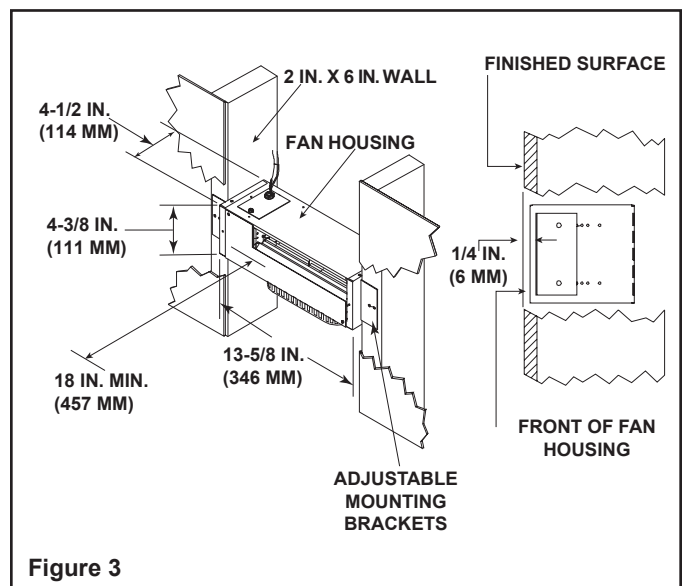
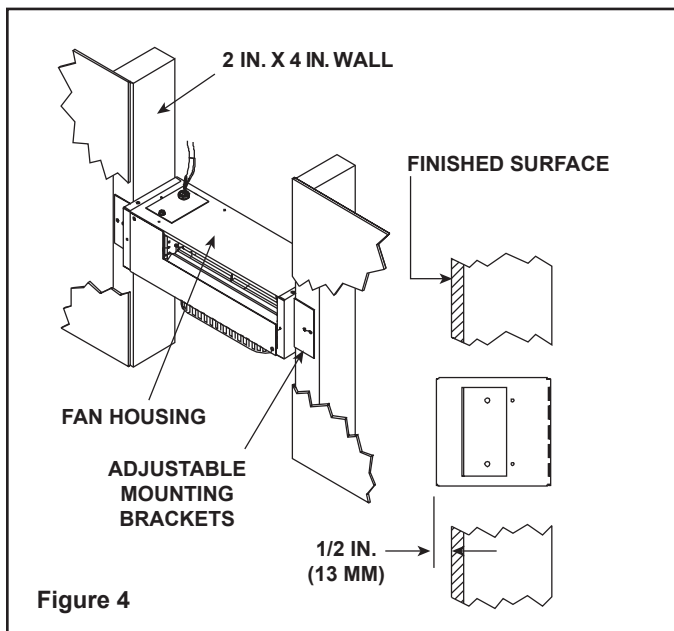
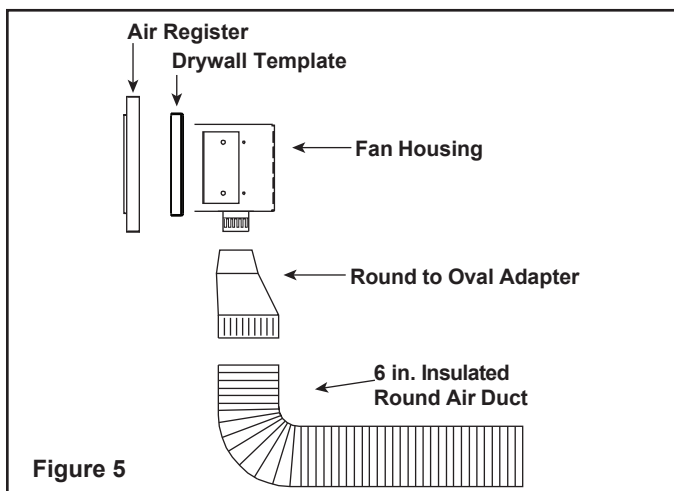

Figure 3
Figure 4
Figure 5
4. Mount and secure the fan housing assembly to framing members so the front surface is 1/4 in. (6 mm) below the finished wall or floor surface. Use the adjustable mounting brackets and screws provided in the kit. See Figure 3 and Figure 4. It may be desirable to add the drywall template to the fan housing at this time. The drywall template can be removed and discarded after finishing material has been added. See Figure 5.
Note: If the fan housing is installed in a 2 x 4 wall, the front of the housing will protrude approximately 1/2 in. (13 mm) out of the wall. See Figure 4.
6. **Insulated Round Air Duct:** Run the flexible duct to the fan housing. Attach the round-to-oval adapter to the fan housing with 2 self-tapping sheet metal screws and the air duct to the adapter with the clamp provided. See Figure 5.